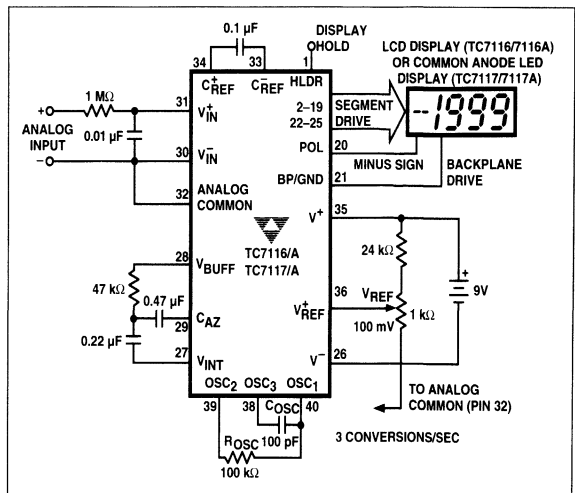

Figure 1 Typical TC7116/A/71A Operating Circuit
3. Unless otherwise noted, specifications apply at T_A = +25°C, f_{CLOCK} = 48 kHz. TC7116/TC7116A and TC7117/TC7117A are tested in the circuit of Figure 1.